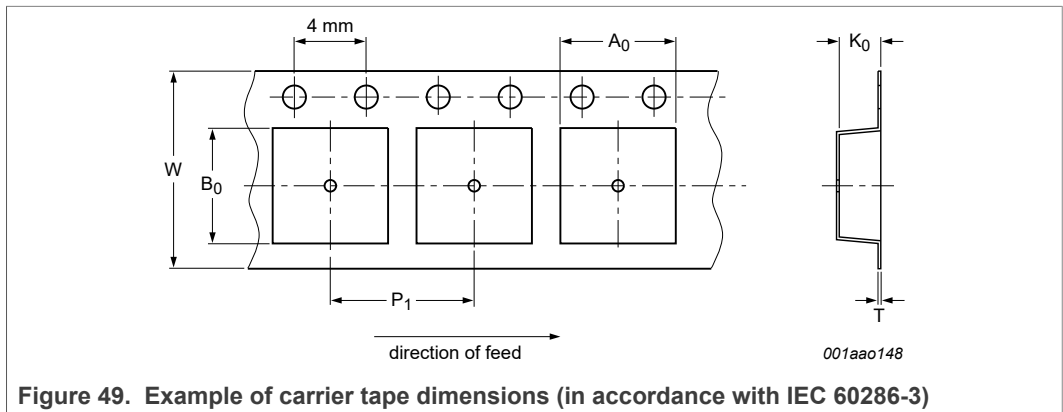

Figure 49. Example of carrier tape dimensions (in accordance with IEC 60286-3)
- Carrier tape dimensions and tolerances (Figure 49 and Table 7)